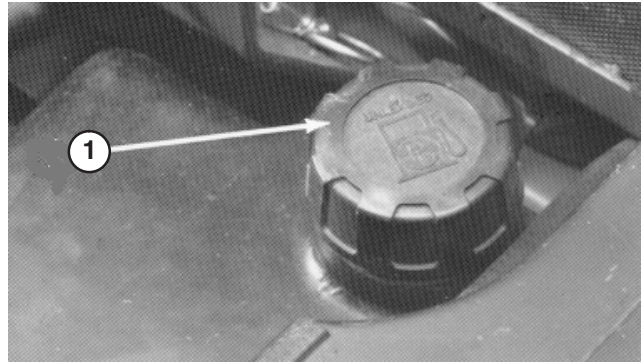

Figure 14
1. Tip seat forward and prop it with the support rod so it cannot fall accidentally. Using a clean rag, clean area around fuel tank cap (Fig. 14).